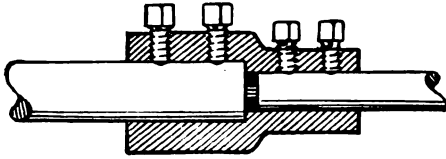

Fig. 4. Earmark of Cheap Engine
Fig. 2, then cut two holes in the pipe to receive two plugs with a ring in them, Fig. 3, to which was attached a piece of common trace chain. Two hooks, Fig. 4, were screwed into short $\frac{3}{8}$ nipples. A hole was drilled for the wire to pass into the large pipe at each of the points (A) and (B). The $\frac{3}{8}$ nipple was screwed into the crowfoot, Fig. 5, on the ceiling. If the two hangers are so spaced that they come under the floor timbers, use lag screws for hooks. The trace chains were about eighteen inches long. The canopies were made out of sheet iron such as stove pipes are made
Two of the earmarks of the cheap engine—or the one which should be cheap—which can be detected at a glance are the muff or sleeve coupling, Fig. 4, and the use of set screws where keys are necessary.